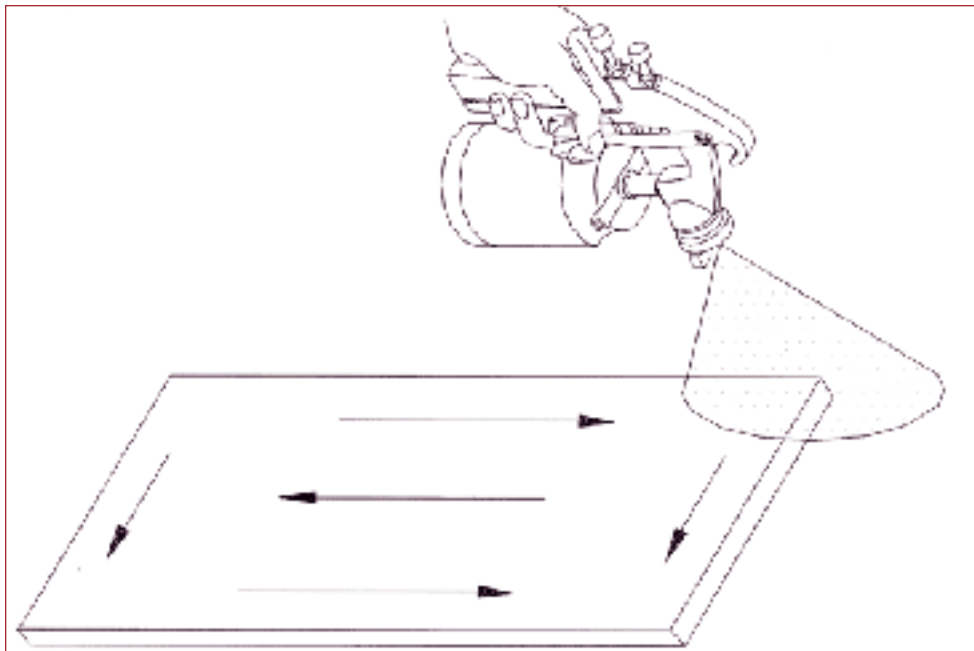

Figure 9: Banding
G. Always paint small and medium size panels without breaking the stroke. With larger panels, use a 4 - 5" overlap of the strokes, arcing the gun at the end of each pass. When spotting or blending a panel, keep the blend as small as possible without jeopardizing the appearance of the blend. To help insure proper coverage of edges while reducing overspray, spray the outer boundaries of the panel first. This technique, called banding, allows the painter to maintain adequate coverage at the edges of the panel without extending the spray stroke well beyond the end of the panel surface (Figure 9).